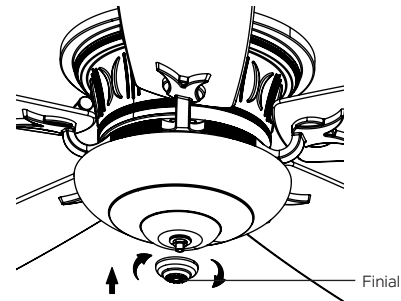

Fig. 25
Step 4. Screw the finial to the threaded rod and securely tighten. (Fig.25)
Step 2. Install the metal plate and “CoolTouch” wall plate to the existing wall outlet box with 4 screws provided. Then place the two plastic plugs into the wall plate. (Fig. 25)